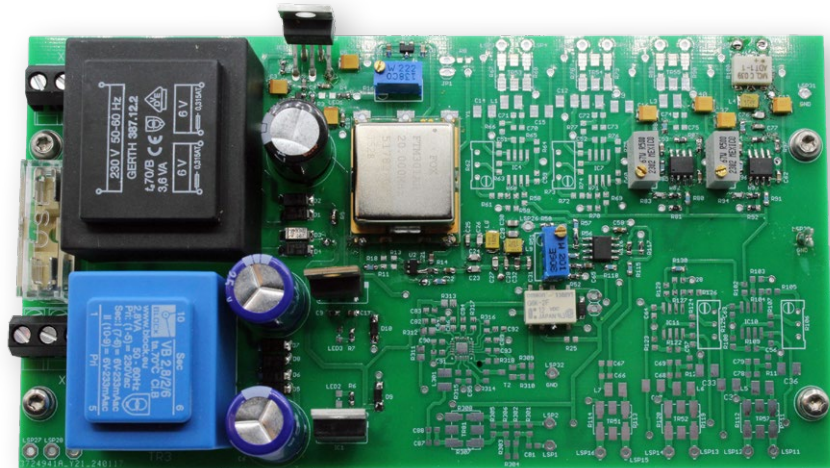

Figure 3: The partially assembled circuit board of the prototype.
**Figure 3** shows the partially assembled board, the layout files of which can be downloaded free of charge in Eagle format from the Elektor website [6]. **Figure 4** shows a board installed in a plastic case with metal front and back panels. As already mentioned, the BNC sockets should be installed with galvanic isolation. The reference generator described in this article is versatile, very accurate, and avoids ground loops in complex test setups. By the way, some empty boards are still available from the author.